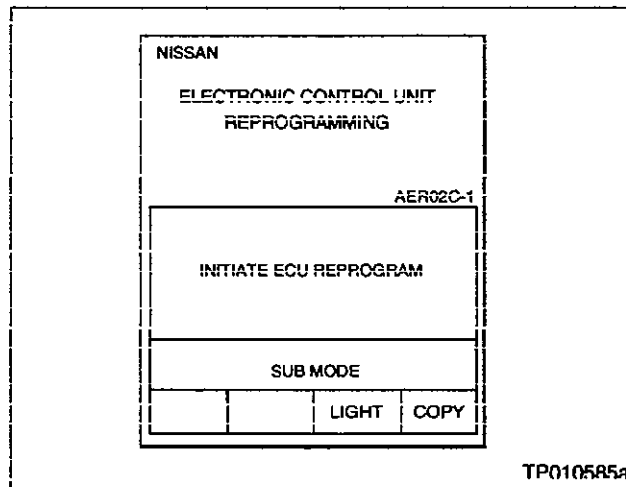

Figure C5
9. **Make Sure the DLC-II cable is firmly plugged into the vehicle harness** (see **CAUTION** below step 8). Turn the ignition switch "ON", but do not start the engine. CONSULT-ii will turn on automatically (see Figure C5).